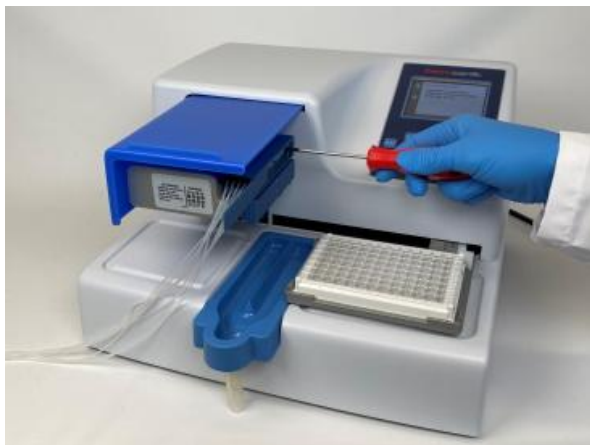

Figure 6–59. Calibration screw cover open
6. Open the calibration screw cover (Figure 6–60) on the upper part of the cassette.